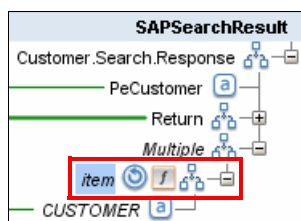

Figure 10-48 Create SAP filter within map
2. Select the Filter Recurring Nodes option, and enter an XPATH-Expression filter, such as starts-with(CUSTOMER, "0000"). Click **OK**. The item element then gets the symbol **f** for function, as shown in Figure 10-48.